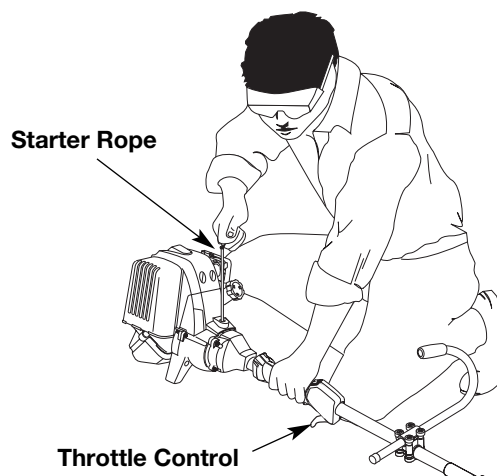

Fig. 22
WARNING: Avoid accidental starting. Make sure you are in the starting position when pulling the starter rope (Fig. 22). To avoid serious injury, the operator and unit must be in a stable position while starting. Make sure that any Add-On item is installed correctly and secure before starting the unit.
- 4. With the unit in the starting position, **do not squeeze the throttle control** (Fig. 22). Pull the starter rope out a short distance, until you feel some resistance. This is usually around 2-4 inches. Then pull the rope smoothly and briskly. Repeat this 5 times. The engine should start.